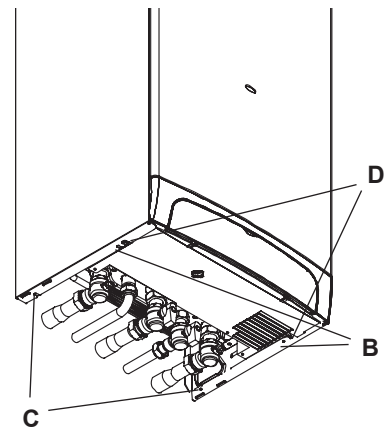

Figure 2.3 - bottom view of the boiler
To remove the side panels loosen the screws B and C (Figure 2.3), bring the base of the panels away from the boiler and lift them, freeing them from the top hooks.
- 2 Loosen the screws B and C (Figure 2.3).